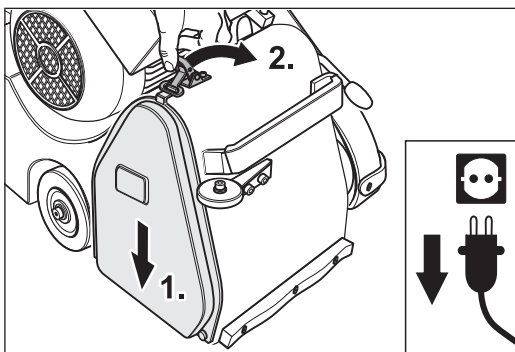

Fig. 33 Mount the side cover.
- 11 After the checking and setting of the sanding belt tracking mount the side cover (Fig. 33).